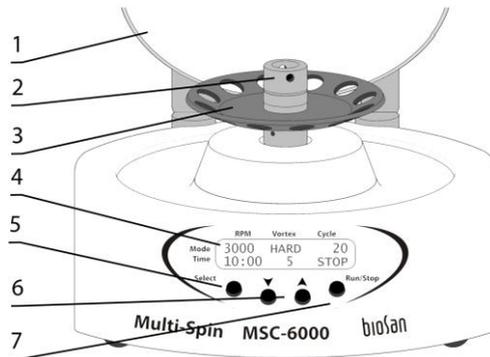

Figure 3. MSC-3000 and MSC-6000
4.4.2 **MSC-3000 & MSC-6000.** To change a rotor (fig. 3/3), open the lid.
Insert the pin for rotor removal into the opening in the fixation head (fig. 3/2). Hold the rotor with one hand and turn the fixation head (using the pin as a lever) counterclockwise to set rotor free. Change the rotor and fix it in place in reverse order. Close the lid and disconnect the external power supply from the mains.
5.4.1 Connect the external power supply to the grounded mains socket. Display (fig. 3/4) lights up and lid (fig. 3/1) unlocks (**MSC-6000**).
5.4.3 **Parameter setting.** Press the **Select** key (fig. 3/5) to choose a parameter to change. Each consecutive press of the **Select** key sequentially activates parameters in cycle. The active parameter will be blinking. Use **▲** and **▼** keys (fig. 3/6) to set the necessary value. Pressing the key down longer than 2 s will make the values change quickly.
5.4.4 Press the **Run/Stop** key (fig. 3/7) to start the program. Display shows indication RUN (fig. 7/2) and, for **MSC-6000**, lid lock symbol (/, fig. 7/1).